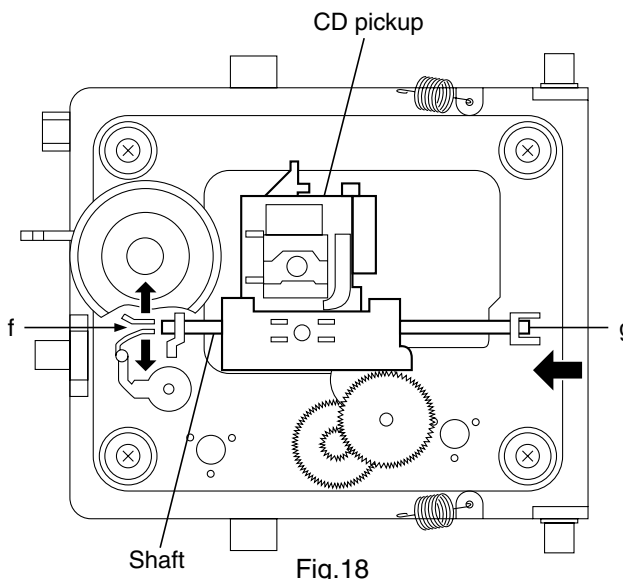

Fig.18
**■ Removing the CD pickup (See Fig.18)**